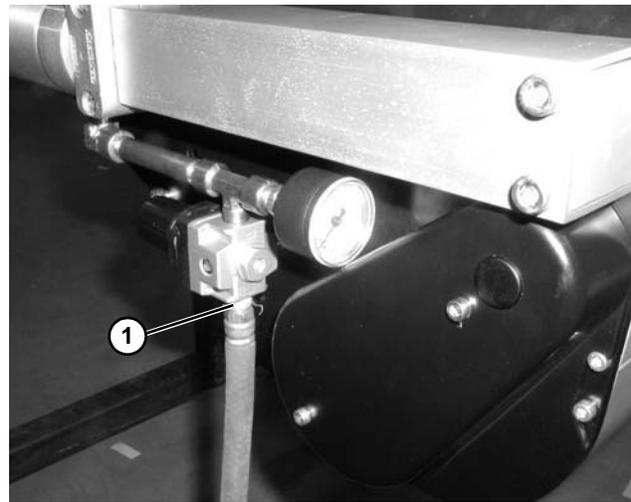

Figure 69
1. Remove air supply and remove hose (Figure 69, item 1) from center drive.